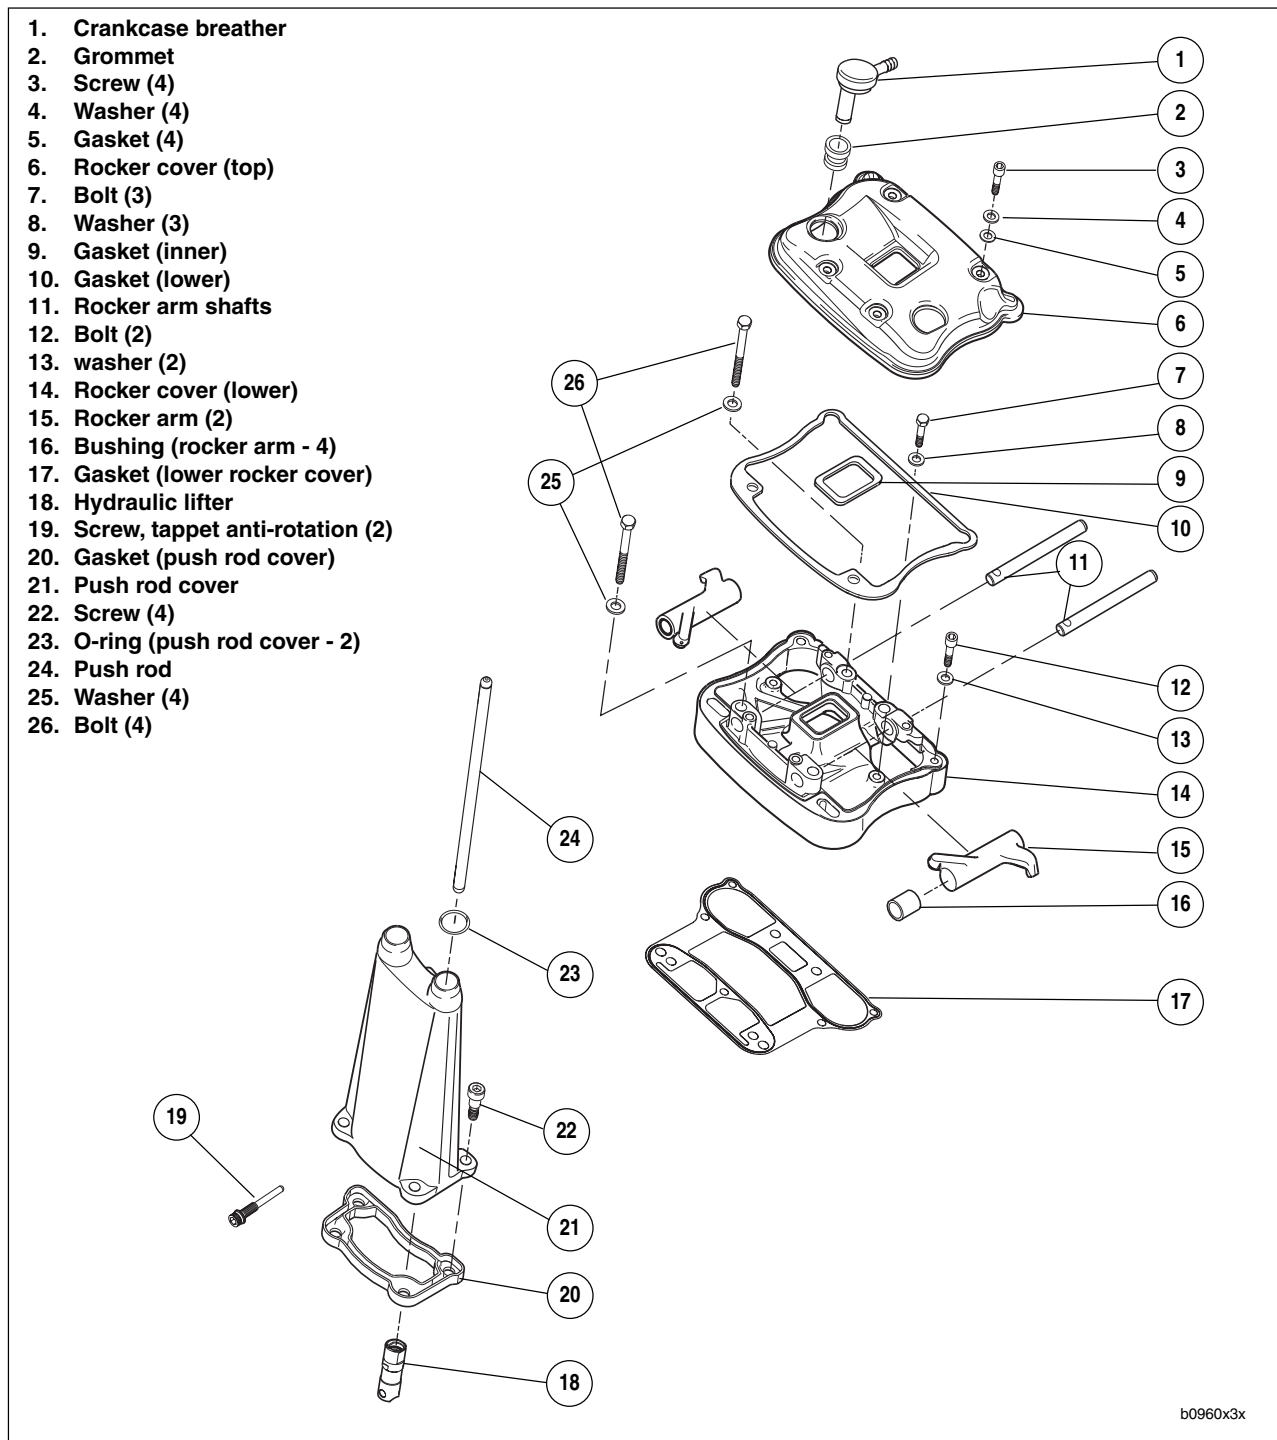

Figure 3-44. Rocker Arm and Push Rod Cover Assemblies
2. See Figure 3-44. Remove screws with washers and fiber cover seals. Discard fiber seals.
- a. Remove two screws and washers (1).
- b. Remove three bolts and washers (2).
- c. Loosen the four rocker arm fasteners (3) in 1/4-1/2 turn increments using a cross pattern in order to relieve valve spring pressure on the lower rocker box.
7. See Figure 3-44. Remove lower rocker cover.
13. See Figure 3-44. Remove push rod cover, gasket and valve tappets.